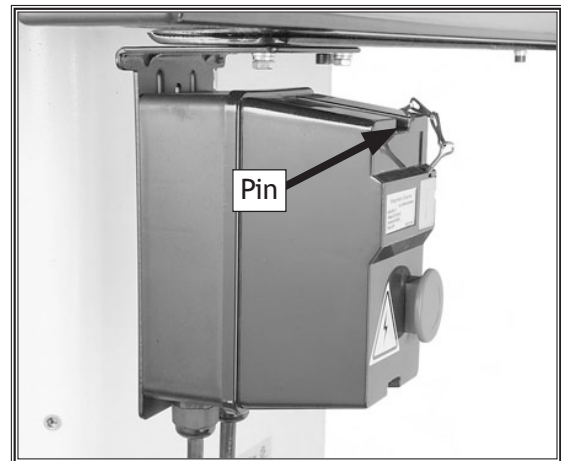

Figure 34. Switch disabling pin inserted into ON button.
6. Insert the switch disabling pin through the green ON button, as shown in **Figure 34**.